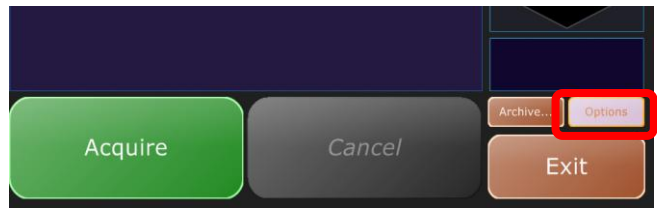

Figure 2
- a. Select *Options* from the acquisition screen. Figure 2